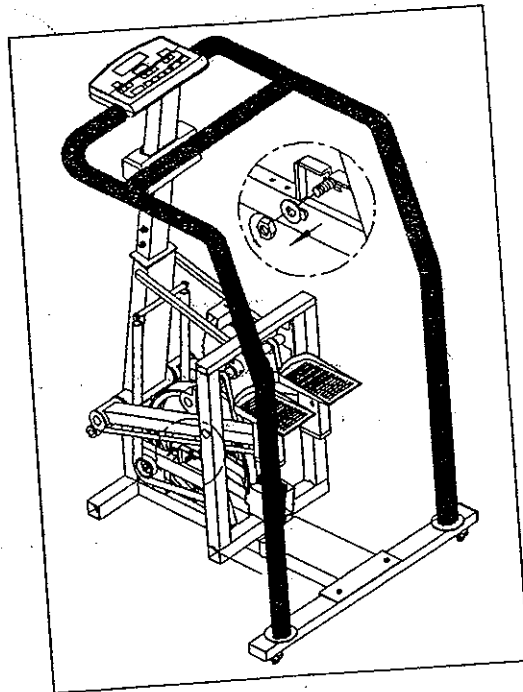

Fig. 8
7. Turn the left nut (located on the left main frame) counterclockwise to release, then remove the fitted washer (see Fig. 8).